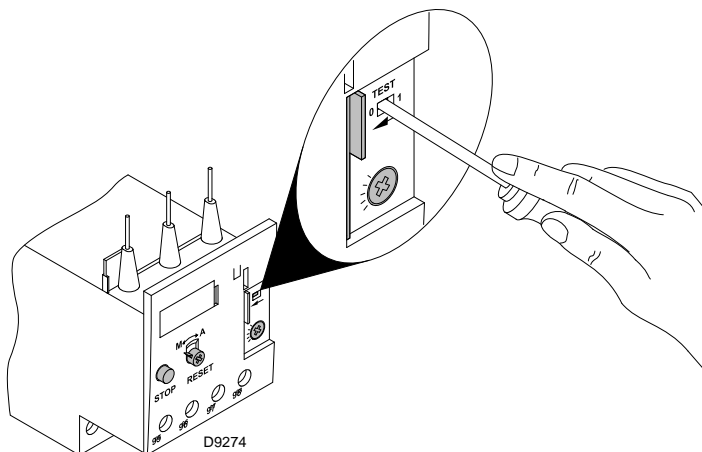

Fig. 24
- To test the thermal relay, insert a screwdriver in the window **"TEST"** (Fig. 24) and move it in the sense of the arrow (towards right).